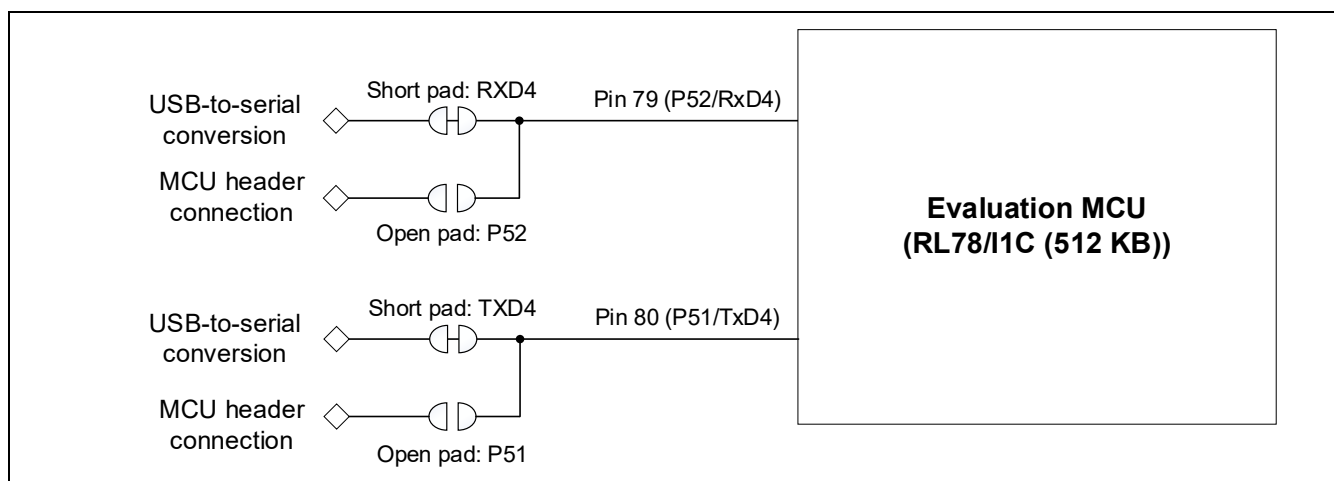
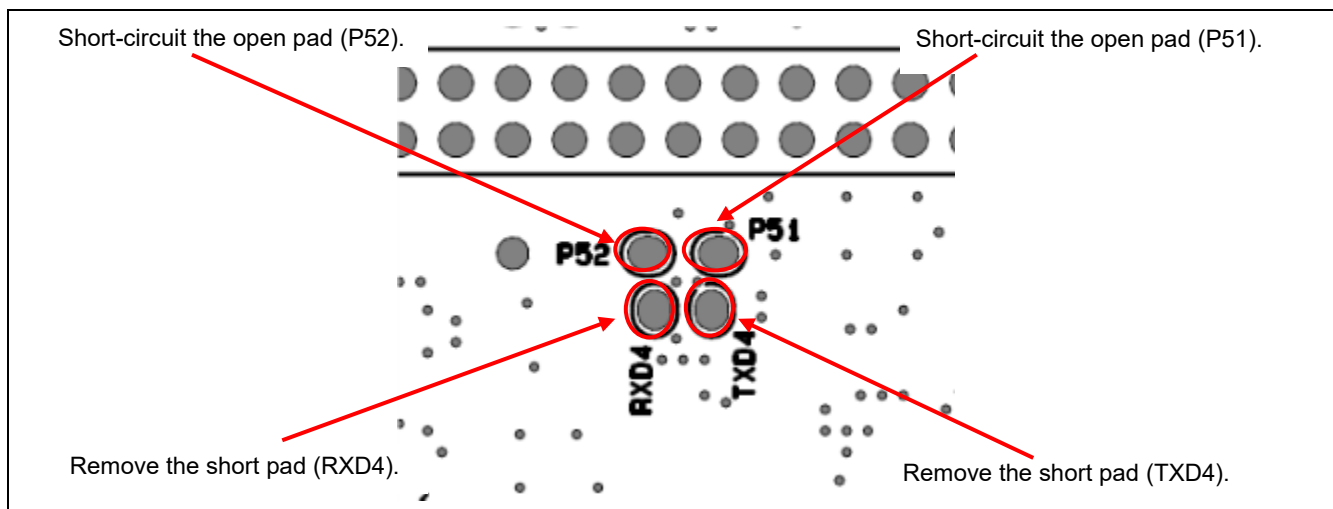

Figure 5-8 Block Diagram of Switching between TxD4/RxD4 and P51/P52 (*1)
Figure 5-9 Positions to be Modified when P51 and P52 are to be Connected to the MCU Headers (Soldered Side) (*1)
- *1. This pin is for use with USB-serial conversion on the board as shipped and by default is not connected to the MCU header. If the MCU header is to be used, remove two short pads (RXD4 and TXD4) and short-circuit two open pads (P52 and P51) on the back of the board (refer to Figure 5-8 and Figure 5-9).